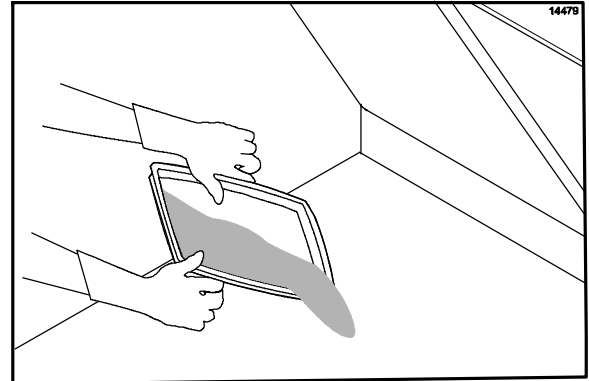

Figure 105
37. Pour the remaining **McD Hi-Temp Grill Cleaner (HTGC)** onto the lower grill surface. (See Figure 105.)